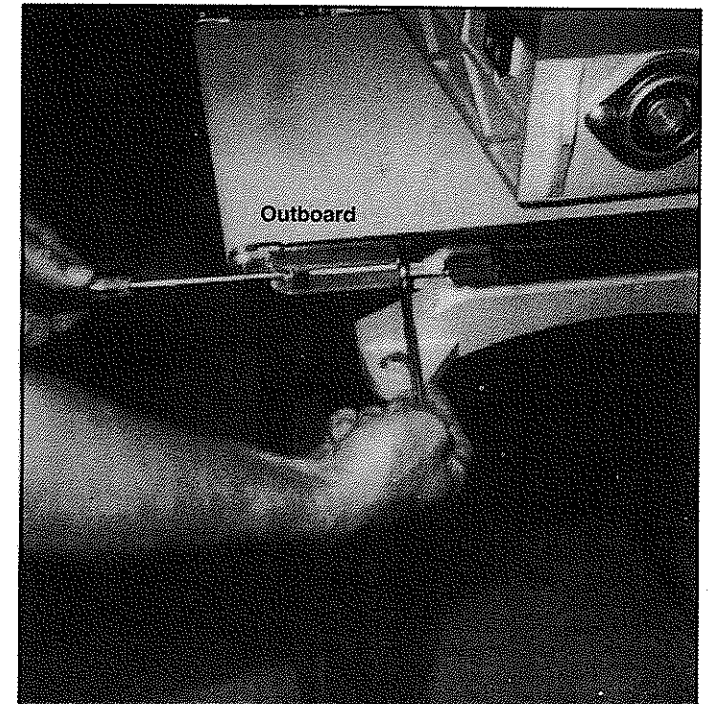

Figure 15
2. To tighten the tracking tension, the tracking screw is rotated clockwise while holding its nut in place with a 7/16" open end wrench (not supplied). To loosen the tracking tension, the tracking screw is rotated counterclockwise while the nut is held with the wrench. (See Figure 15.)